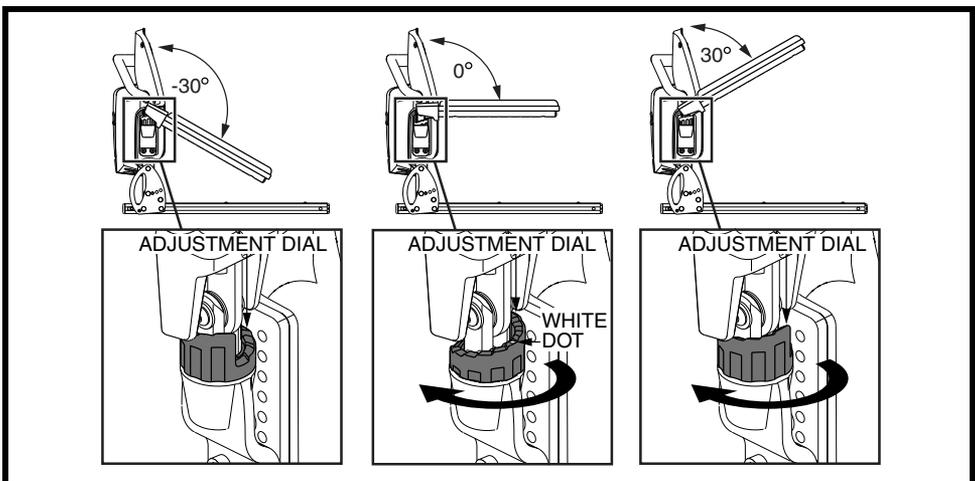

Figure 6. Cantilever Armrests Angle Adjustment
- Turn the adjustable dial clockwise to change the angle of the armrest. **See figure 6.** The armrest is at 0° when it sits on the white dot of the adjustable dial. From 0° , the angle can be decreased to -30° or increased to 30° in 5° increments. The adjustable dial moves only in the clockwise direction.